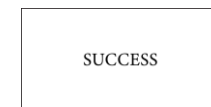

Figure 3
2. The SPO2 reading, and the PR will be uploaded in the patient record associated with the device serial number. Once the data has been transferred the screen will display a message "SUCCESS". (as shown in Figure 3)